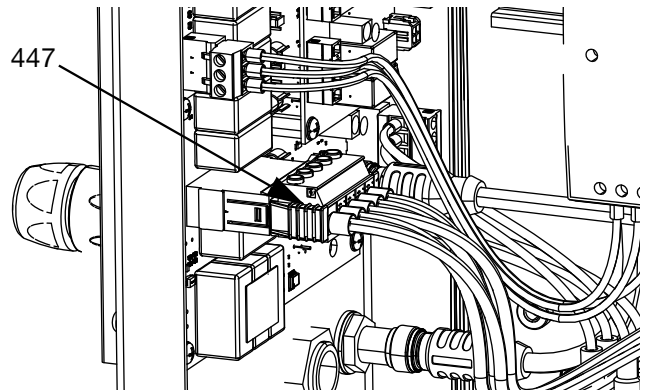

FIG. 18
- Connect the CAN cable included with the Expansion Module to Bulkhead 2 (B2) in AMZ 1 in the Heat Control Box (S).
- Connect the wiring harness (479) from the Expansion Module to AMZ1 as shown in FIG. 18.